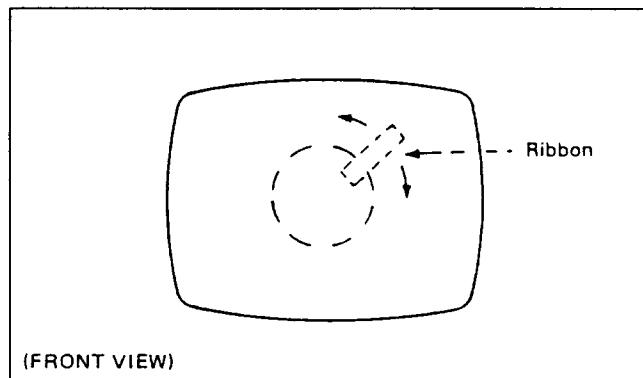

Fig. 8
- Moving the ribbon toward the periphery, find the position where minimum aberration of the point TR is obtained. (Fig. 8)